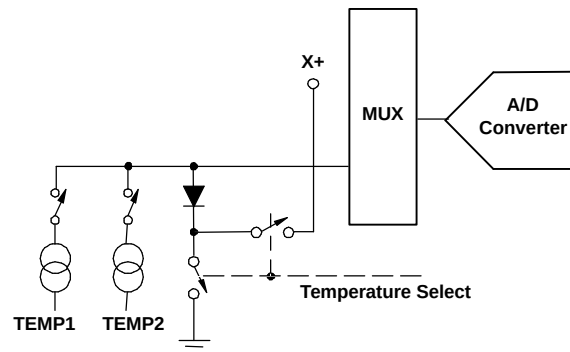
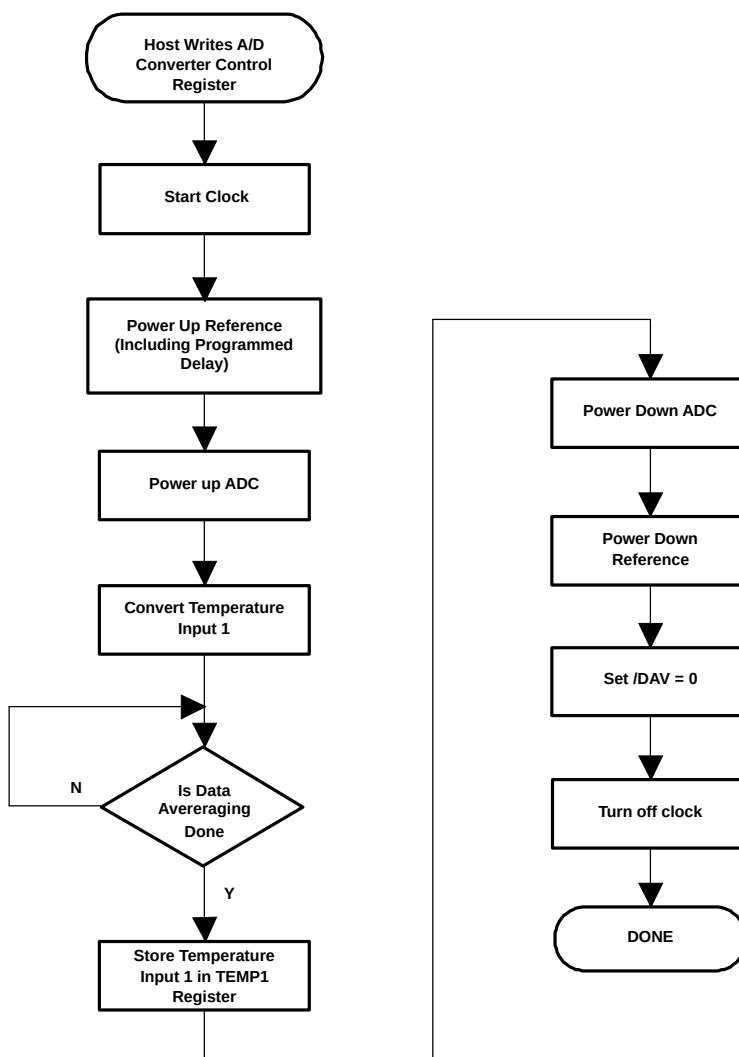

Figure 61. Functional Block Diagram of Temperature Measurement Mode.
Figure 62. Single Temperature Measurement Mode
The TSC2300 offers two modes of temperature measurement. The first mode requires calibration at a known temperature, but only requires a single reading to predict the ambient temperature. A diode, as shown in Figure 61, is used during this measurement cycle. The voltage across this diode is typically 600 mV at +25°C while conducting a 20-μA current. The absolute value of this diode voltage can vary several millivolts, but the temperature coefficient (TC) of this voltage is very consistent at -2.1 mV/°C. During the final test of the end product, the diode voltage would be measured by the TSC2300's ADC at a known room temperature, and the corresponding digital code stored in system memory, for calibration purposes by the user. The result is an equivalent temperature measurement resolution of 0.3°C/LSB. This measurement of what is referred to as Temperature 1 is illustrated in Figure 62.